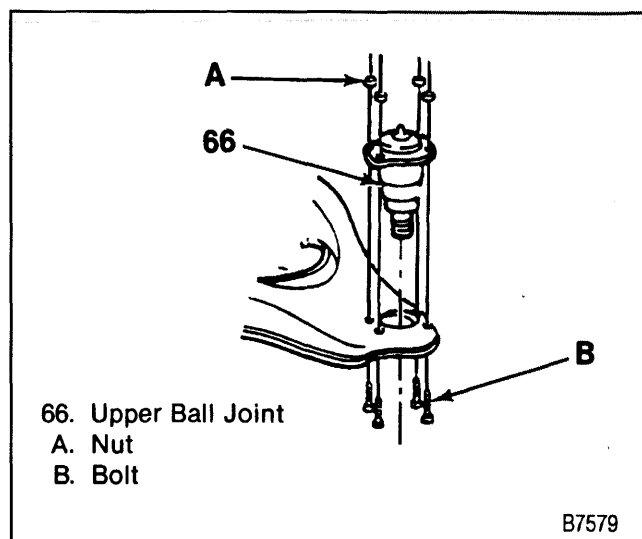

Figure 20—Installing the Upper Ball Joint
1. New upper ball joint (66) to the upper control arm (42) (figure 20).
- Position four attaching bolts and nuts (figure 20).